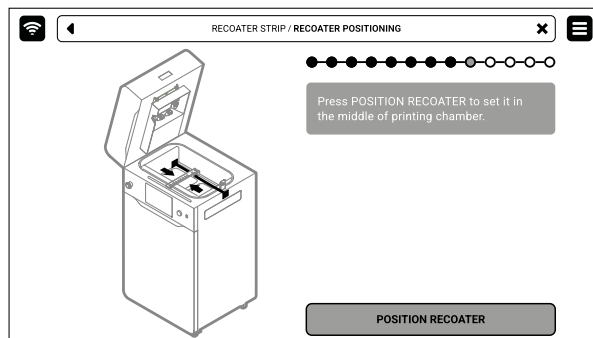

Fig. 13.11 The **POSITION RECOATER** screen.
7. Press **POSITION RECOATER** to set it in the middle of the printing chamber, in between the beds (fig. 13.11).